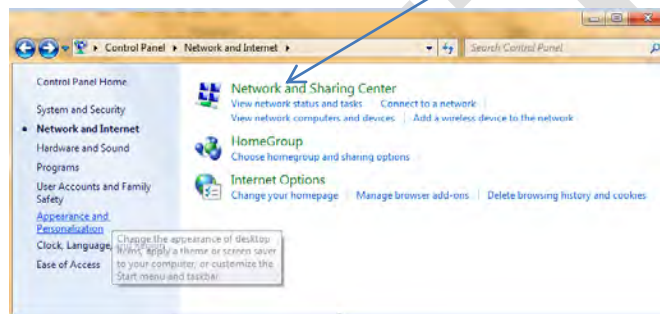

Fig 1
- b. When the Network and Internet windows opens click “**Network and Sharing Center**” (Fig 1)